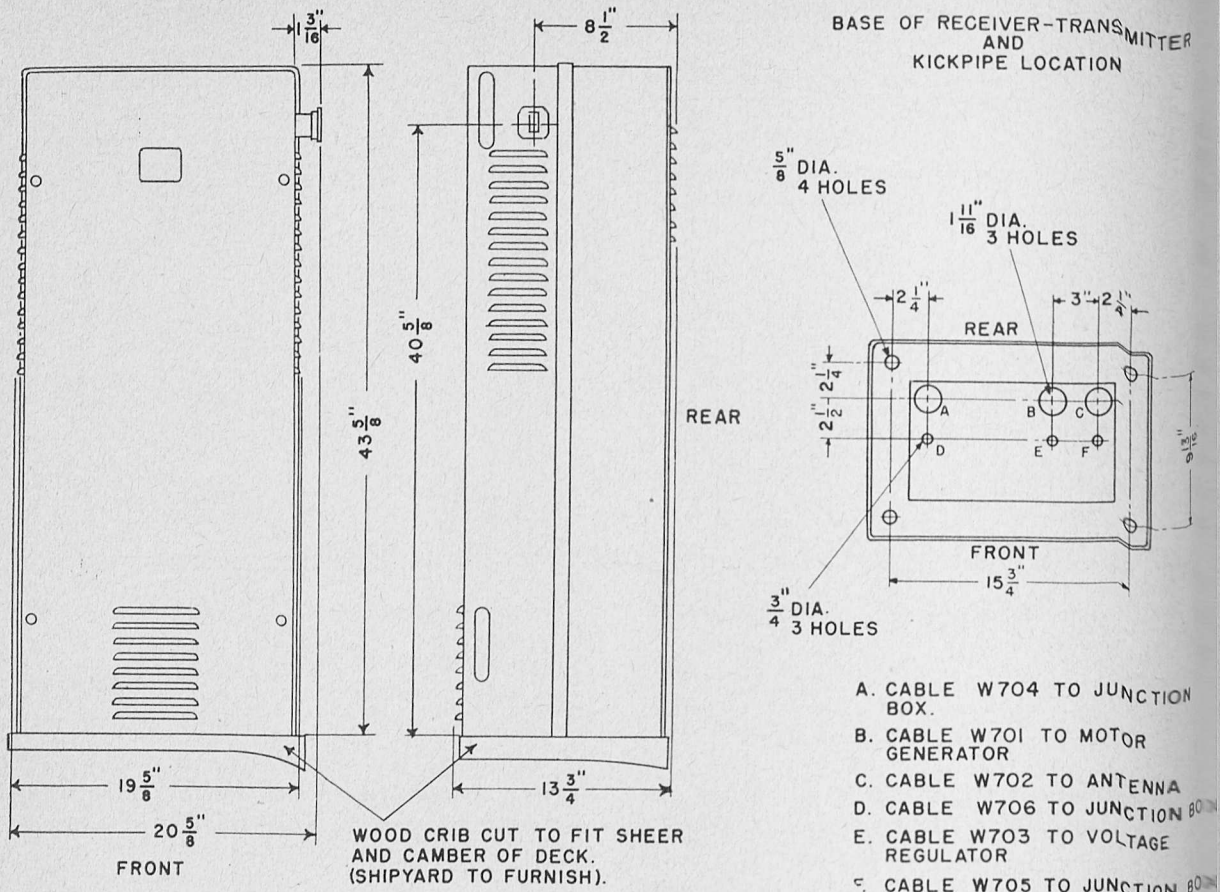

Figure 25. Receiver-transmitter, dimensional drawing.
b. The base of the receiver-transmitter should rest on a strong wooden crib (fig. 25). This crib usually is supplied by the agency or the shipyard which installs the unit. The thickness of the wooden crib must be considered when the waveguide run is planned.
c. Select the deck position for the base of the receiver-transmitter and mount the wooden crib. Drill four 5/8-inch mounting holes in the wooden crib as indicated in the base and kick pipe location diagram of figure 25.
d. In the deck, drill three $1\frac{1}{16}$ -inch kick pipe holes (A, B, and C, fig. 25) and three $\frac{3}{4}$ -inch kick pipe holes (D, E, and F, fig. 25).